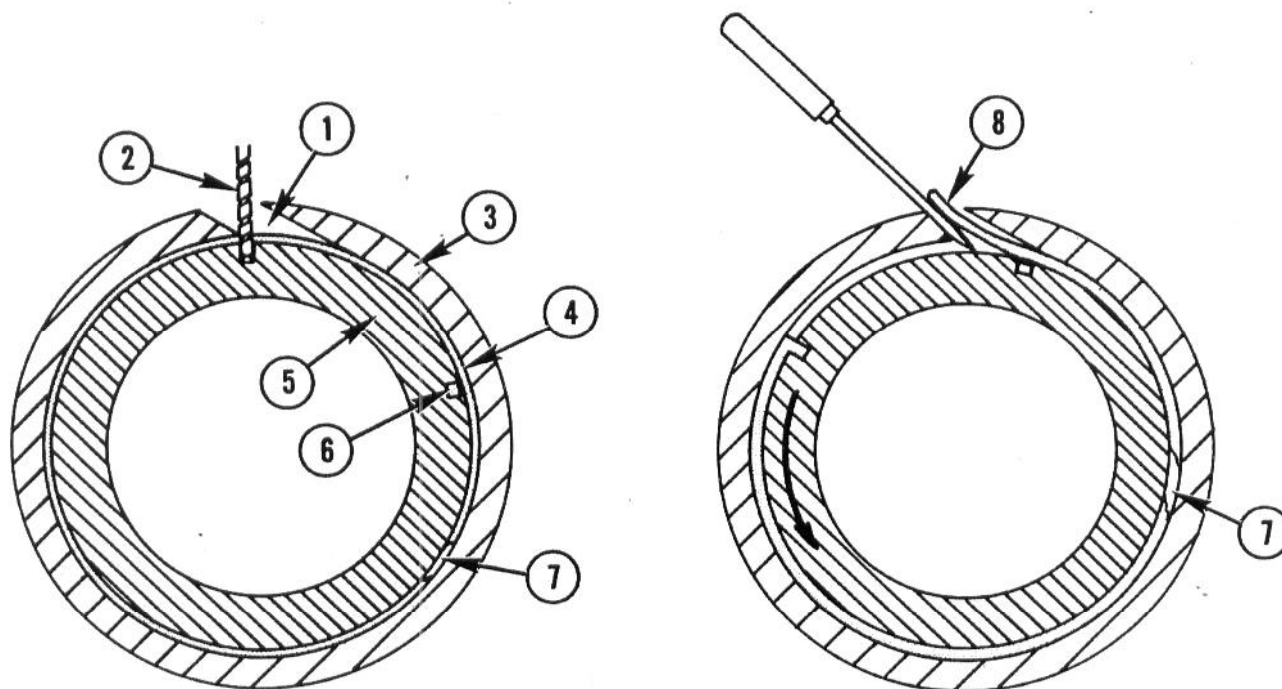

Fig. 67 — Drilling Through and Starting Wire Retaining Ring for Removal of Broken Ring
c. If wire retaining ring is broken and will not turn ... carefully center punch wire (through hole in barrel) then CAREFULLY drill through wire and slightly into bearing, see Figs. 67 and 68. Insert a piece of wire same SIZE as retaining wire (or a